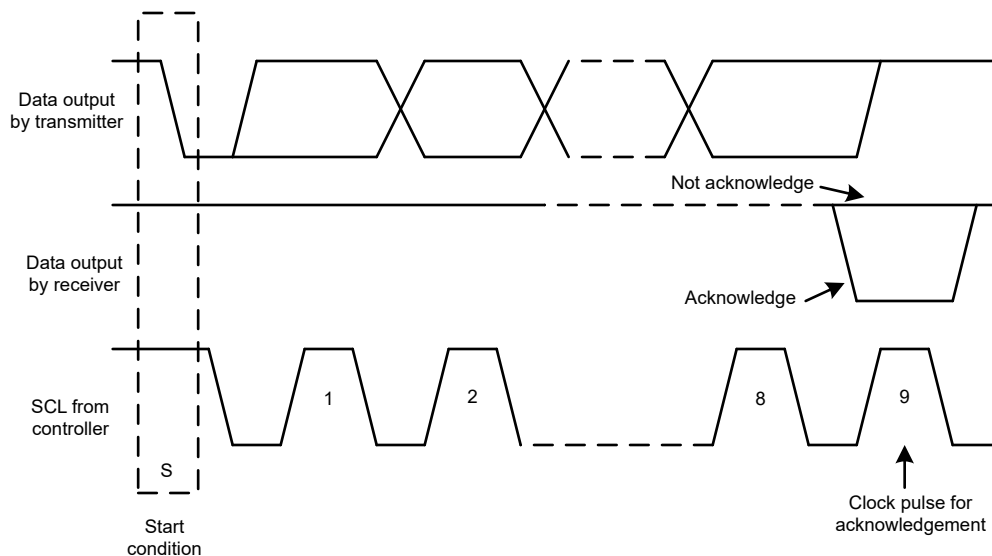
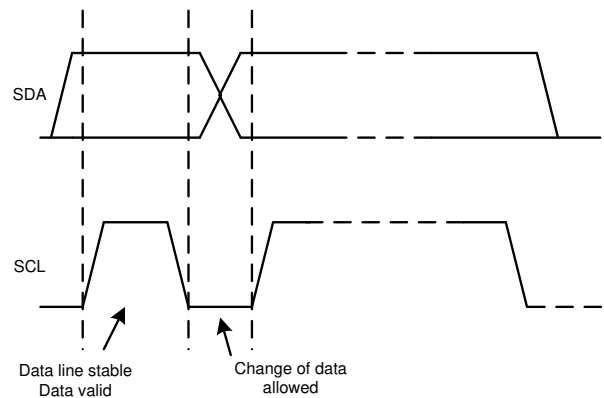

Figure 7-18. Acknowledge and Not Acknowledge on the I²C Bus
Figure 7-20. Bit Transfer on the I²C Bus
Other than specific timing signals, the I²C interface works with serial bytes. At the end of each byte, a ninth clock cycle generates and detects an acknowledge signal. An acknowledge is when the SDA line is pulled low during the high period of the ninth clock cycle. A not-acknowledge is when the SDA line is left high during the high period of the ninth clock cycle, as shown in Figure 7-18.
2. The controller then generates the SCL pulses, and transmits the 7-bit address and the read/write direction bit (R/\bar{W}) on the SDA line. During all transmissions, the controller makes sure that data are valid. A valid data condition requires the SDA line to be stable during the entire high period of the clock pulse, as shown in Figure 7-20. All devices recognize the address sent by the controller and compare the address to the respective internal fixed address. Only the target device with a matching address generates an acknowledge by pulling the SDA line low during the entire high period of the 9th SCL cycle, as shown in Figure 7-18. When the controller detects this acknowledge, the communication link with a target has been established.